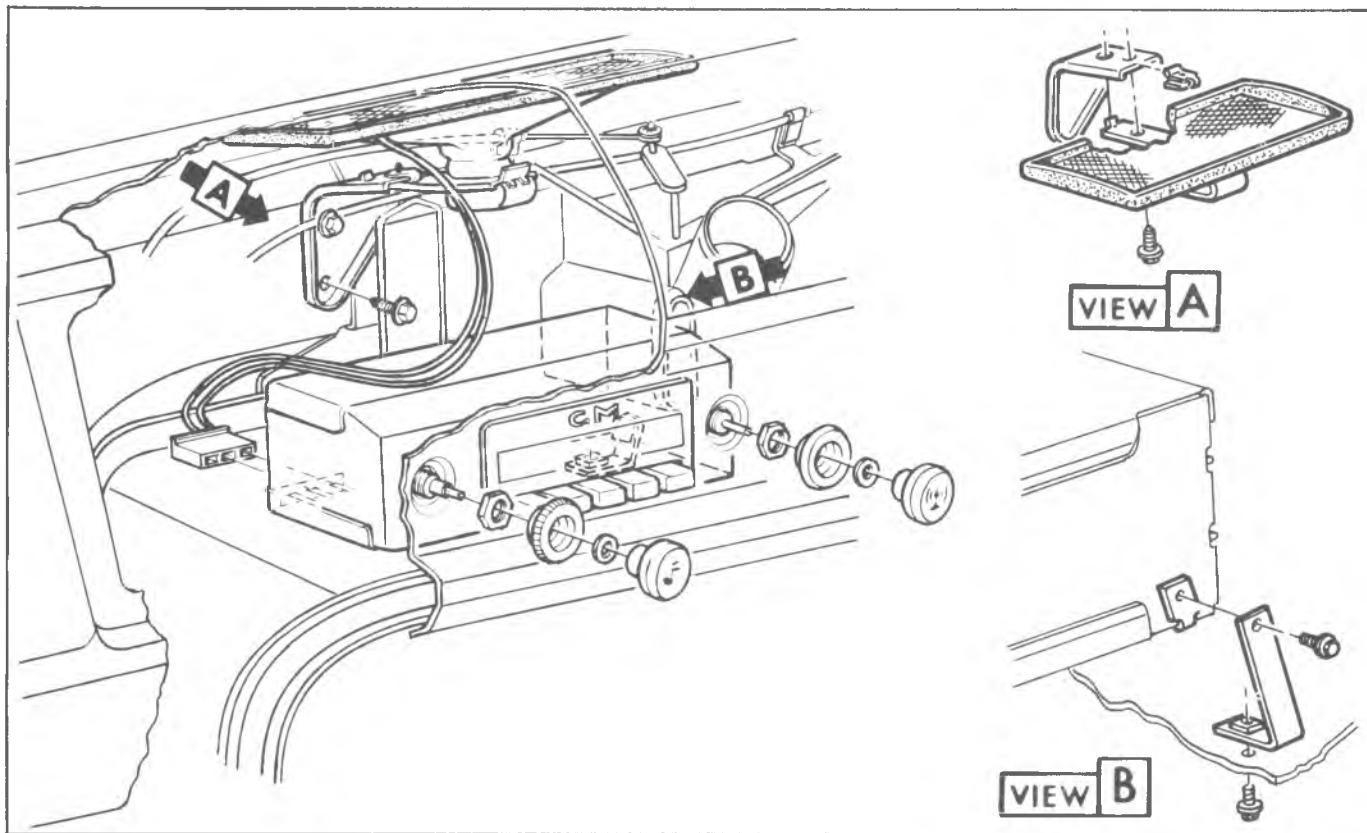
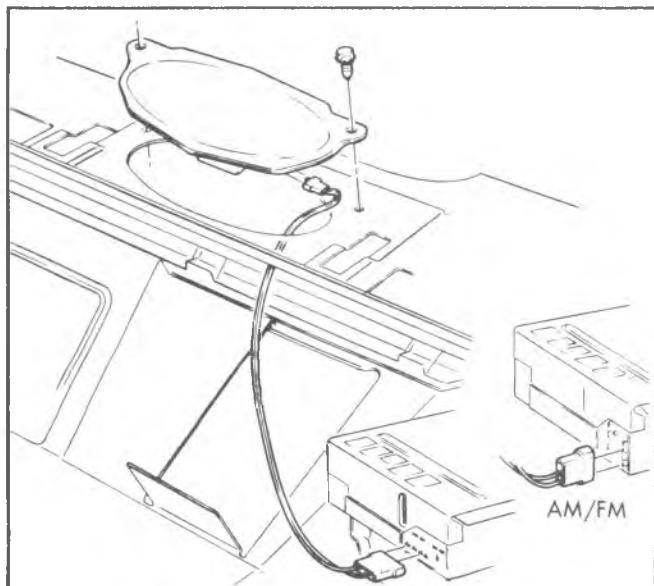

Fig. 3-Radio Installation (G Models)
Fig. 4-Radio Speaker (C-K Models)
##### Replacement (Fig. 3)
**SPEAKER****C-K Models****Replacement (Fig. 4)**
2. Remove instrument cluster bezel upper (4) screws.
**G Models****Replacement (Fig. 3)**